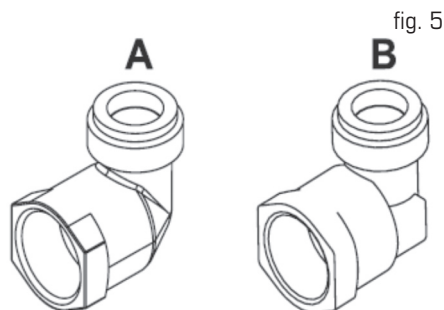

fig. 5
Certain models are supplied with two unions: a cylindrical union (A) and a conical union (B) (fig.5). Choose the appropriate union according to the country of installation.